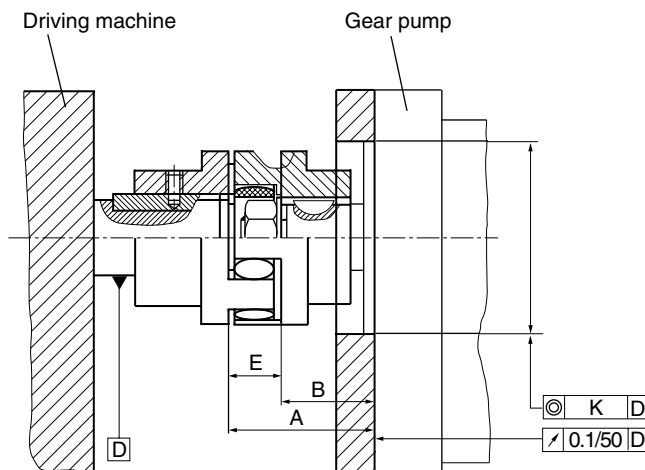

Fig. 1
The permissible deviations from the true shape and from the required position, which are shown in Fig. 1, must be complied with, according to the coupling manufacturer demands (K). If the deviations are exceeded, a reduction of the service life of the gear unit and the driving unit as whole will result.